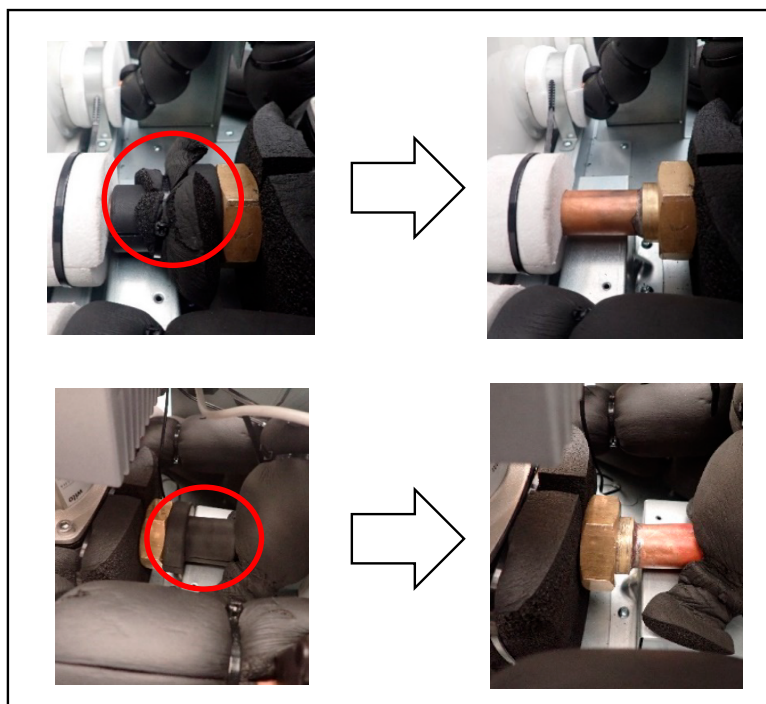

Fig9. Removing insulation and insulation rubbers
- (d) Remove the insulation and insulation rubbers.(○ mark, Fig.9)